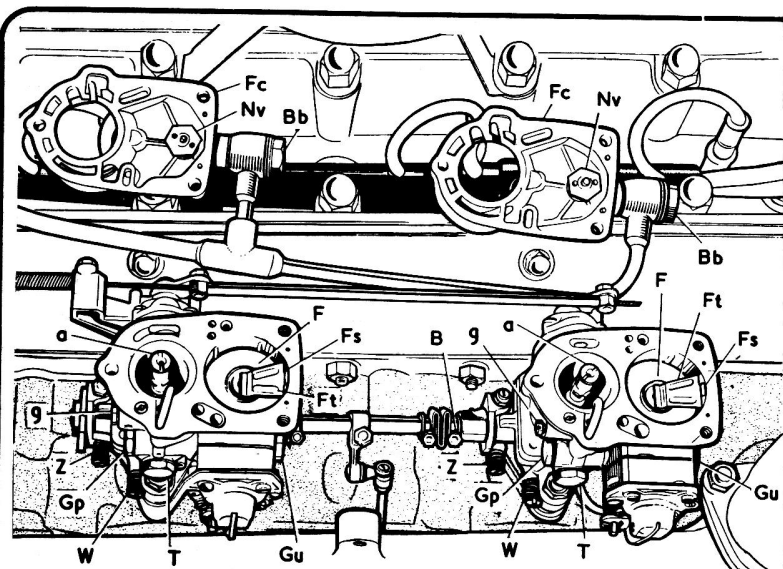

FIG.3.11. VIEW OF CARBURETTORS INSTALLED WITH FLOAT CHAMBER COVERS REMOVED
- 1 Refer to Fig.3.11. The carburettors can be dismantled to the extent necessary for routine cleaning of jets and the float chamber without removing them from the engine. Proceed as follows.
- 3 Disconnect the fuel feed pipes to the carburettors by unscrewing the banjo bolts (Bb Fig.3.11) collect the washers and filter gauzes.
- 6 Lift and remove the float toggles (Ft), the spindles (Fs) and the floats (F).
- 3 Each carburettor has two external adjustments, the slow running adjustment screw (Z) Fig.3.11 and the mixture volume control screw (W).
- 4 Switch off the engine when running temperature is obtained and loosen the clamping bolt (B) Fig.3.11 on the flexible link between the carburettors. Ensure that the mixture control lever in the car is at "RUN", disconnect the mixture control levers at the carburettors and make sure that they are fully forward. Now starting with the front adjust each carburettor separately.
- 5 Unscrew the screw (Z) and ensure that the throttle is closed by pressing on the slow running screw. Place a piece of thin paper (or a 0.002" feeler gauge) between the screw and the casting stop and screw down until the paper is lightly nipped. Remove the paper and screw in on (Z) one further complete turn from that point.
- 6 Gently screw the volume control screw (W) clockwise until light contact is made with the casting seat, then unscrew three quarters of a turn.
- 8 Start the engine and have an assistant to watch the revolution counter. Adjust each slow running screw (Z) equally until the engine is running at 650 rpm. Now screw out each volume control screw (W) a quarter of a turn at a time working alternately between carburettors until a drop in rpm is registered.
- 10 If the engine speed is now other than 650 rpm adjust the slow running adjustment screws (Z) alternately each a part turn at a time to obtain the required idling speed and to maintain synchronisation.
If the engine idles satisfactorily but suddenly fails to respond to throttle opening, the fault will probably lie in the main jets, these should be removed for cleaning. The main jets are assembled in holders the heads of which are clearly marked "Main Jet Holder" (refer to item "T" in Fig.3.11). Remove the jet holder and gripping the head between the jaws of a spanner the jet can be removed with a screwdriver and blown out. Removal of the jet holder will allow the float chamber to drain and this will assist in carrying away any impurities.